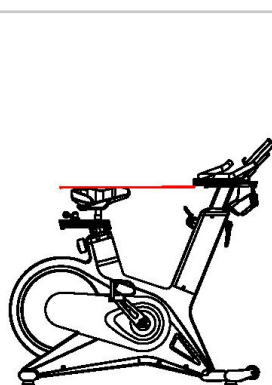

FIGURE 5
2. Adjust the height of the handle so that the lowest part of the handle is the same height as the seat cushion. As shown in Figure 5.